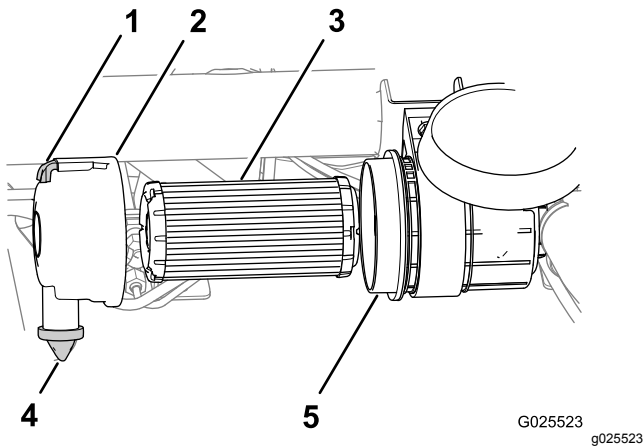

Figure 40
1. Pull the latch outward and rotate the air-filter cover counterclockwise (Figure 40).
3. Remove the air filter from the housing (Figure 40).
4. Wipe clean the interior of the air-filter cover and housing (Figure 40).
5. Remove the rubber dust valve from the cover (Figure 40).
6. Clean the dirt-ejection port located in the air-cleaner cover, the dust-valve cavity, and replace the dust valve (Figure 40).
8. Insert the new air filter by applying light pressure to the outer rim of the filter to seat it in the air-filter housing (Figure 40).
9. Align the air-filter cover with the dust valve at the 6 o'clock position when viewed from the left end of the cover (Figure 40).
10. Secure the latch of the air-filter cover (Figure 40).